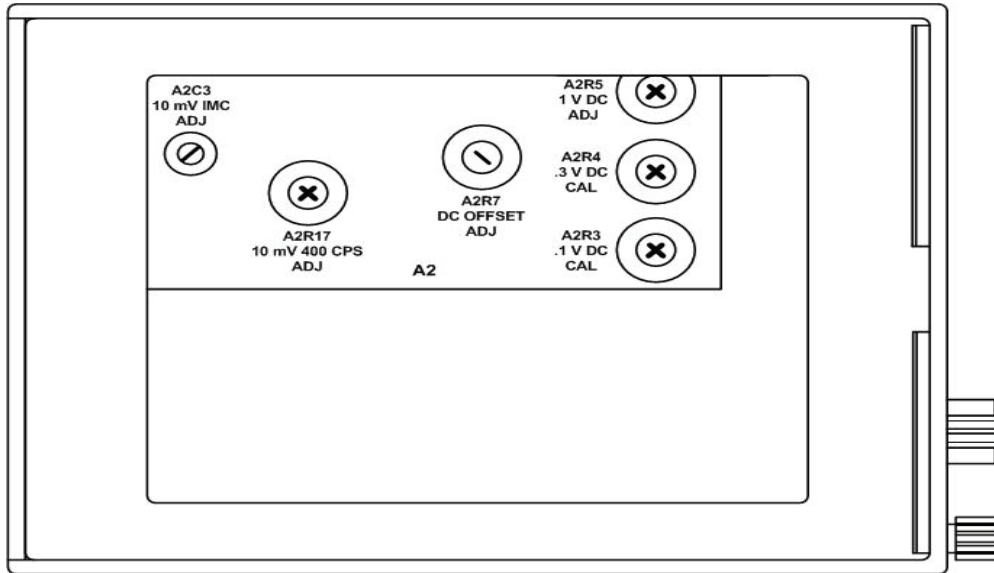
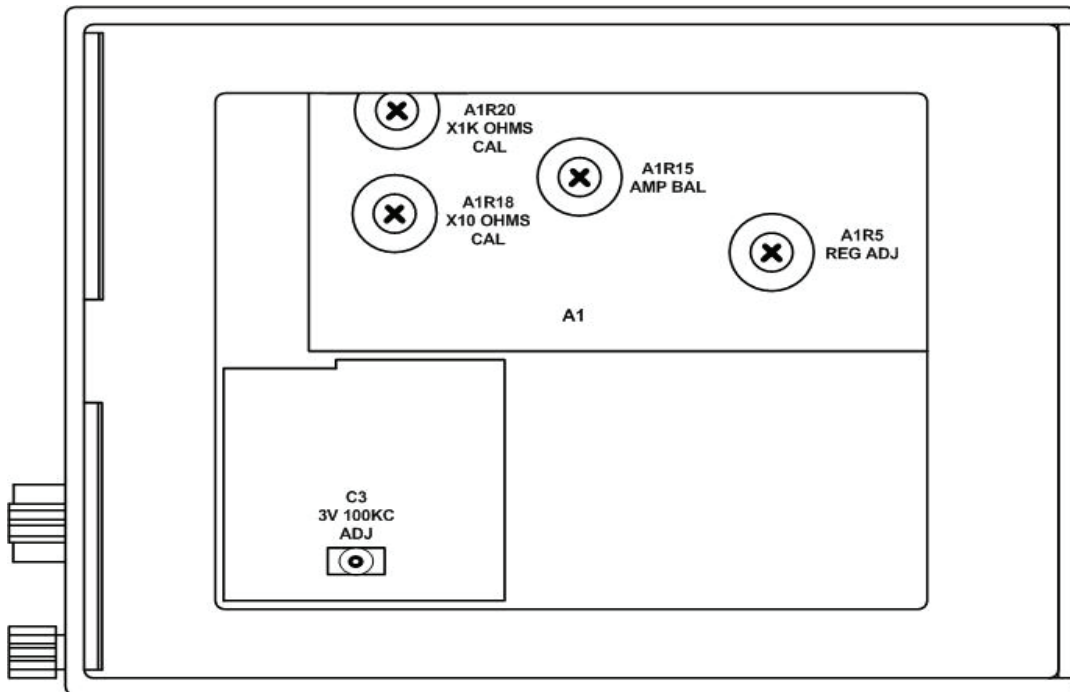

Figure 1. Voltmeter - left view.
Figure 2. Voltmeter - right view.
- (1) Adjust A2R7 DC OFFSET ADJ (fig. 1) until TI meter indicates zero (R).
- (2) Repeat a (2) through (4) above.
- (3) Adjust A1R15 AMP BAL (fig. 2) while repeating a (5) and (6) above until meter indication is the same in both steps (R).
- (1) Turn **FUNCTION** switch to **+DCV**.
- (2) Short **VOLTS** terminal to **COM** terminal, and **OHMS** terminal to **COM** terminal, using two leads (B2).
- (3) Adjust **DC ZERO/Ω∞** control for zero indication on top scale.
- (4) Turn **FUNCTION** switch to **OHMS**. If meter does not indicate zero, perform **b** below.
- (5) Remove shorts connected in (2) above.
b. Adjustments. Adjust A1R5 REG ADJ (fig. 2) while turning **FUNCTION** switch between **OHMS** and **+DCV** until meter indication is the same in both **OHMS** and **+DCV** positions (R).
- (1) Adjust calibrator to 0.100 volt.
- (2) Adjust A2R3 .1V DC CAL (fig. 1) until TI meter indicates 1 on 0 to 1 scale (R).
- (3) Adjust calibrator to 0.300 volt.
- (4) Adjust A2R4 .3V DC CAL (fig. 1) until TI meter indicates 3 on 0 to 3 scale (R).
- (5) Adjust calibrator to 1.00 volt.
- (6) Adjust A2R5 1VDC ADJ (fig. 1) until TI meter indicates 1 on 0 to 1 scale (R).
(1) Adjust calibrator to 10.000 millivolts.
(2) Adjust A2R17 10mV 400 CPS ADJ (fig. 1) until TI meter indicates 1 on 0 to 1 scale (R).
(3) Adjust function generator frequency to 1 MHz and output for zero reference on expand scale.
(4) Adjust A2C3 10mV IMC ADJ (fig. 1) until TI meter indicates 1 on 0 to 1 scale or best in-tolerance condition (R).
(5) Adjust function generator frequency to 100 kHz and output for zero reference.
(6) Adjust C3 3V 100KC ADJ (fig. 2) until TI meter indicates 3 on 0 to 3 scale (R).